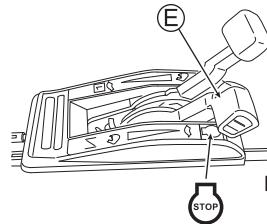

Fig. 14
- The engine stalls if the blade lever is gripped with Throttle lever (E) set at "|\|".
- 2 Set Throttle lever (E) to "STOP". (See Fig. 14)